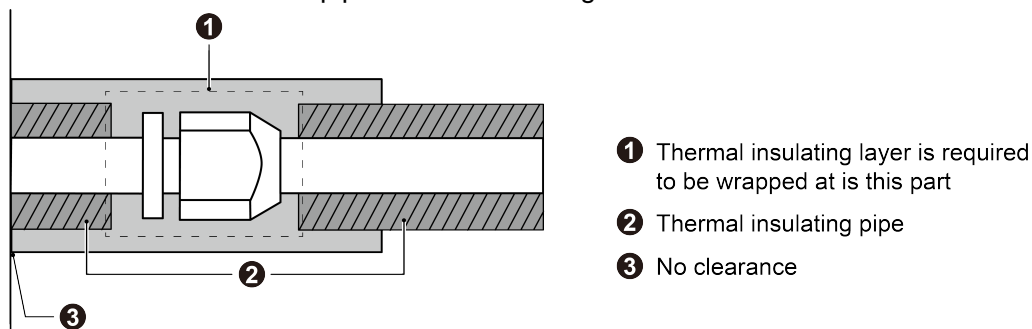

Fig. 3.4.8
- 2) Joints at indoor and outdoor units should be wrapped with insulating material and leave no clearance between pipe and wall. See Fig. 3.4.8.